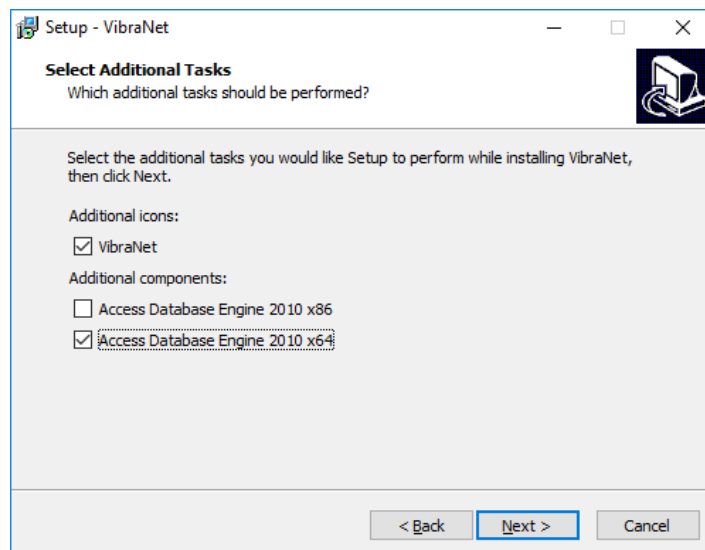

Fig. 2.3. Choice of a data folder for program's shortcuts
11. In the appeared window select version of the program and additional components which you want to install on your computer (Access Database Engine 2010) (fig. 2.3) and press «Next».